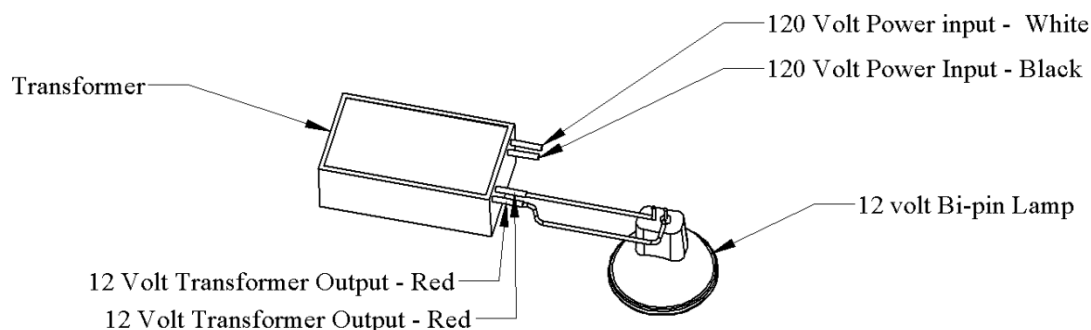

Figure 4 – Transformer Check
5. Place small O-ring (P) onto exposed tube portion of tube/ socket assembly (M).
6. Screw brass ring (Q) onto exposed threads of socket (O). Position small O-Ring (P) against top of brass ring (Q). (Figure 4)
7. Install bulb (R) into socket (O). (Figure 4)
Expose Transformer by removing canopy and then turn power back on. These 12 Volt pendants are supplied with a Class 2 (power limited) Low Voltage Transformer, so there is no potential for shock. Carefully touch each one of the Transformer's 12 Volt output wires to each pin of the Lamp as shown in Figure 4. If the Lamp lights, this indicates a good Transformer and the Pendant lead needs to be replaced. If the Lamp does not light, then the Transformer needs to be replaced. Turn off the power.